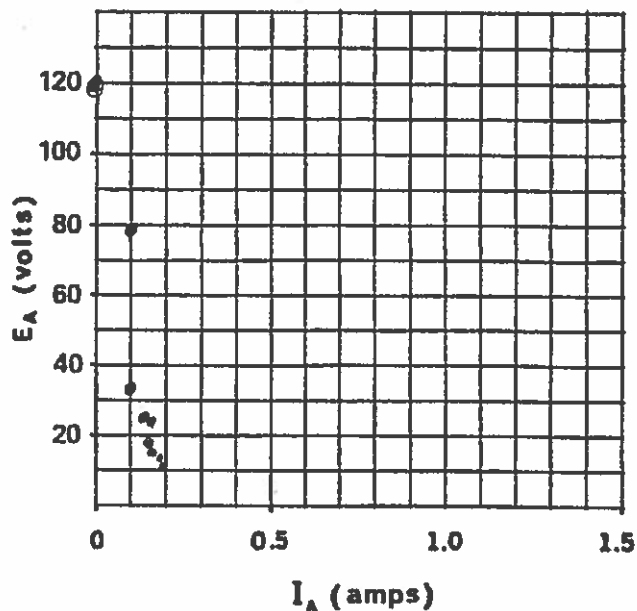

Figure 29-4.
2. Plot the E_A vs I_A regulation curve on the graph of Figure 29-4. Use the data from Table 29-2.